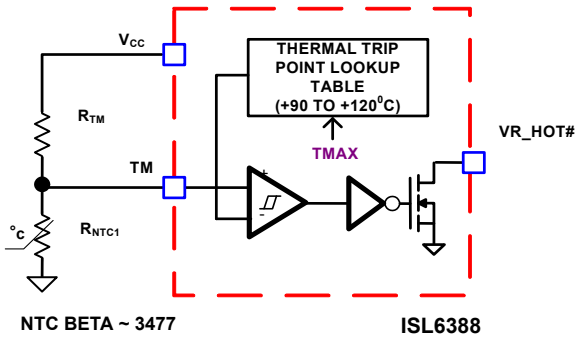
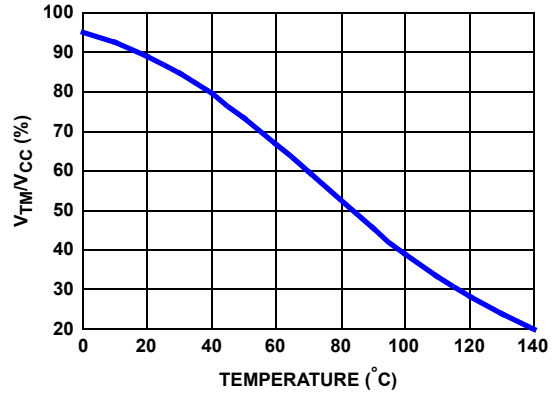

FIGURE 20. BLOCK DIAGRAM OF THERMAL MONITORING FUNCTION
FIGURE 21. THE RATIO OF TM VOLTAGE TO NTC TEMPERATURE WITH RECOMMENDED PARTS
The block diagram of thermal monitoring function is shown in Figure 20. One NTC resistor should be placed close to the respective power stage of the voltage regulator VR to sense the operational temperature, and pull-up resistors are needed to form the voltage dividers for the TM pins. As the temperature of the power stage increases, the resistance of the NTC will reduce, resulting in the reduced voltage at the TM pin. Figure 21 shows the TM voltage over the temperature for a typical design with a recommended 6.8kΩ NTC (P/N: NTHS0805N02N6801 from Vishay, b = 3477) and 1kΩ resistor R_{TM}. It is recommended to use those resistors for the accurate temperature compensation since the internal thermal digital code is developed based upon these two components. If a different value is used, the temperature coefficient must be close to 3477 and R_{TM} must be scaled accordingly. For instance, say NTC = 10kΩ (b = 3477), then R_{TM} should be 10kΩ/6.8kΩ*1kΩ = 1.47kΩ.
There is a comparator with hysteresis to compare the TM pin voltage to the threshold set by the TMAX register (programmable via PMBus E8[2:0]) for VR_HOT# signal. With TMAX set at +100 °C, the VR_HOT# signal is pulled to GND when TM voltage is lower than 39.12% of V_{CC} voltage, and is open (pulled high through TM) when TM voltage increases to above 40.98% of V_{CC} voltage. The comparator trip point will be programmable by TMAX register. Figure 21 shows the operation of those signals.
Based on the V_{CC} voltage, the ISL6388 converts the TM pin voltage to a 6-bit TM digital signal for temperature compensation. With the non-linear A/D converter of ISL6388, the TM digital signal is proportional to the NTC temperature. For accurate temperature compensation, the ratio of the TM voltage to the NTC temperature of the practical design should be similar to that in Figure 21.
When a different NTC type or different voltage divider is used for the TM function, the TCOMP voltage can also be used to compensate for the difference between the recommended TM voltage curve in Figure 21 and that of the actual design. If the same type NTC (β = 3477) but different value is used, the pull-up resistor needs to be scaled, as shown in Equation 20:
1. Properly choose the voltage divider for the TM pin to match the recommended curve in Figure 21.